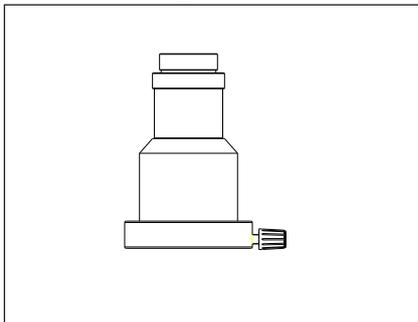
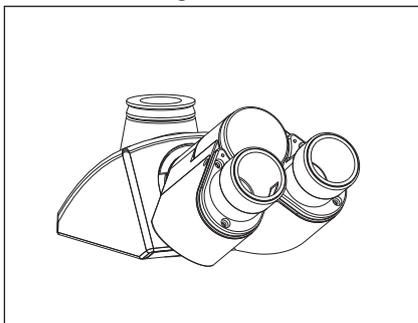

Fig. 4
Fig. 5
1. Mount the Video adapter 1/2" (part # 3143300-912) Fig. 4 on Trinocular observation head (Fig. 5).